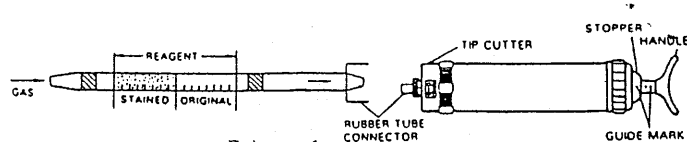

Fig. 1
- ① Break both ends of detector tube.
- ② Insert the detector tube into aspirating pump securely as shown in Fig.1. (Arrow mark shall point to the pump.)
- ③ Align the guide marks on the shaft and stopper of the aspirating pump.
- ④ Pull pump handle to full stroke until it locks and wait for 1 minute or until confirmation that sampling is completed (See descriptions of the flow indicator in the pump instructions).